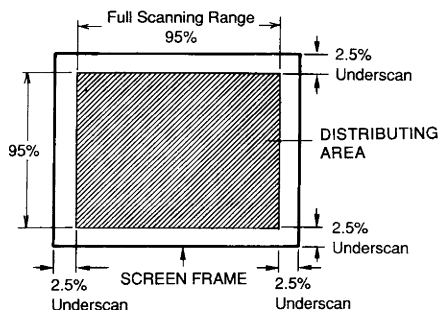

FIG. 14 UNDERSCAN ADJUSTMENT
- (1) Select the VIDEO 1 mode and apply NTSC color bar signal.
- (2) Check that the 10% blanking of the horizontal width are obtained, and the vertical height is balanced with its horizontal width. (Refer to Fig. 14)
- (3) Switch to the VIDEO 2 mode, and then apply PAL color bar signal.
- (4) Adjust the H. WIDTH control on the remote controller to obtain 10% blanking on the horizontal width, and adjust V. HEIGHT button to obtain the vertical height which is in proportion as its horizontal width. (Refer to Fig. 14)
- (5) When in RGB 2 mode, apply H-character signal.
- (6) Confirm the 10% blanking is obtained on both sides of the screen, and the vertical height is in proportion to its H. WIDTH. (Refer to Fig. 14)
- (7) When in RGB 1 and 3, apply H-character signal.
- (8) Adjust the H. WIDTH and V. HEIGHT controls so the both horizontal width and vertical height of the pattern become 5% underscan as illustrated below.